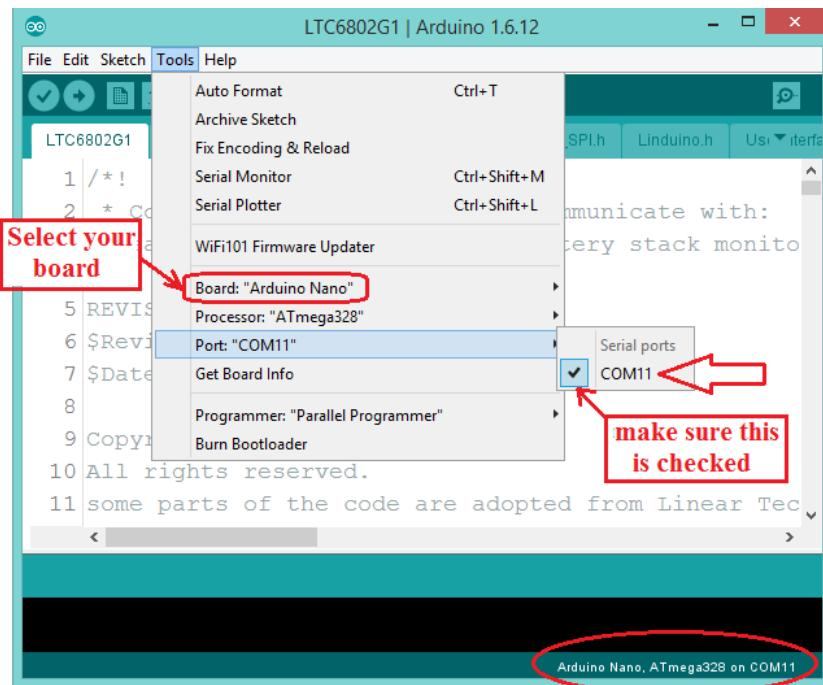

Figure 7: Arduino board connected to PC through USB port
3. Connect your Arduino board 'Master' to any serial port of your computer. Make sure that you selected the right Arduino board and serial port. In our tutorial we use Arduino Nano. Figure.7 shows the configuration we had (note that yours can be a bit different).
3. Connect your Arduino unit 'Master' to any serial port of your computer. Make sure that you selected the right Arduino board and serial port. In our tutorial we use Arduino Nano as in Fig.7.